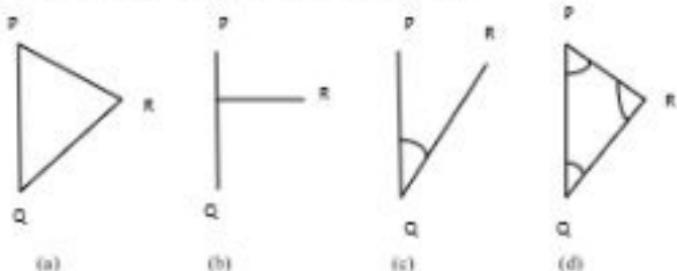

Fig. 1
- (i) *By measuring distances PR and QR.* - The distances PR and QR may be measured and the location of R may be plotted by drawing arcs to the same scale to which line PQ has been drawn as shown in Fig 1 (a).
- (ii) *By dropping a perpendicular from R on PQ*- A perpendicular RT may be dropped on the line PQ. Distances PT, TQ and RT are measured and the location of R may be plotted by drawing the perpendicular RT to the same scale to which line PQ has been drawn (Fig. 1 (b)).
- (iii) *By measuring the distance QR and angle PQR*- The distance QR and the angle PQR equal to  $\alpha$  are measured and location of R may be plotted either by means of a protractor or trigonometrically (Fig 1 (c)).
- (iv) *By measuring the interior angles of the triangle PQR*- The interior angles P, Q and R of the triangle PQR are measured with an angle measuring instrument such as theodolites. The length of sides PR and QR are calculated by solving the triangle PQR and coordinates of R are calculated in the same terms as those of P and Q. Even without calculating the co-ordinates, or sides the location of R can be obtained by plotting the angles PQR and QPR (Fig 1(d)).